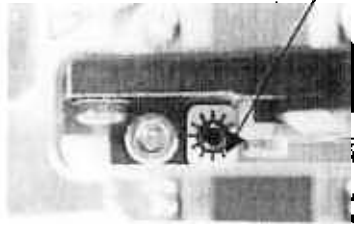

Fig. 8
- (iv) One scale of the blade height adjustment screw is $20\ \mu\text{m}$ (refer to Fig. 8).